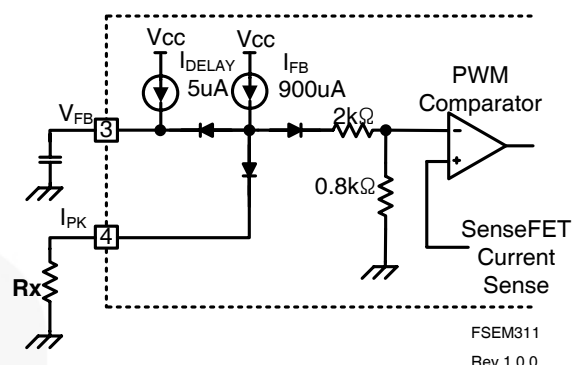

Figure 21. Peak Current Limit Adjustment
7. Adjusting Peak Current Limit: As shown in Figure 21, a combined 2.8kΩ internal resistance is connected to the non-inverting lead on the PWM comparator. An external resistance of Rx on the current limit pin forms a parallel resistance with the 2.8kΩ when the internal diodes are biased by the main current source of 900μA